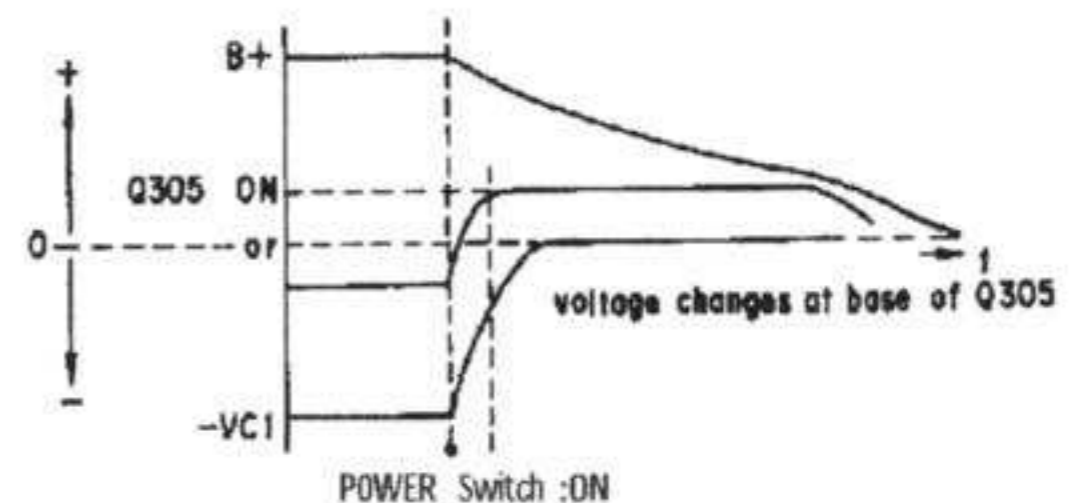

Fig. 1-3.
3. Muting Circuit (See Fig. 1-3 and Fig. 1-4)